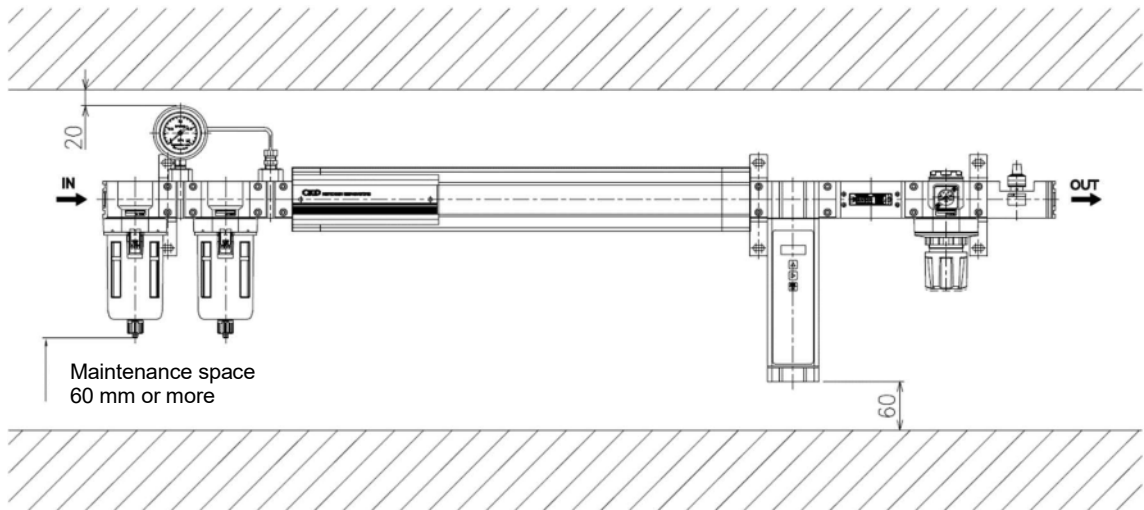

Fig.6
- 4) Allow a minimum of 20 mm above the top and 60 mm under the filter for maintenance purpose. (Refer to Fig.6)